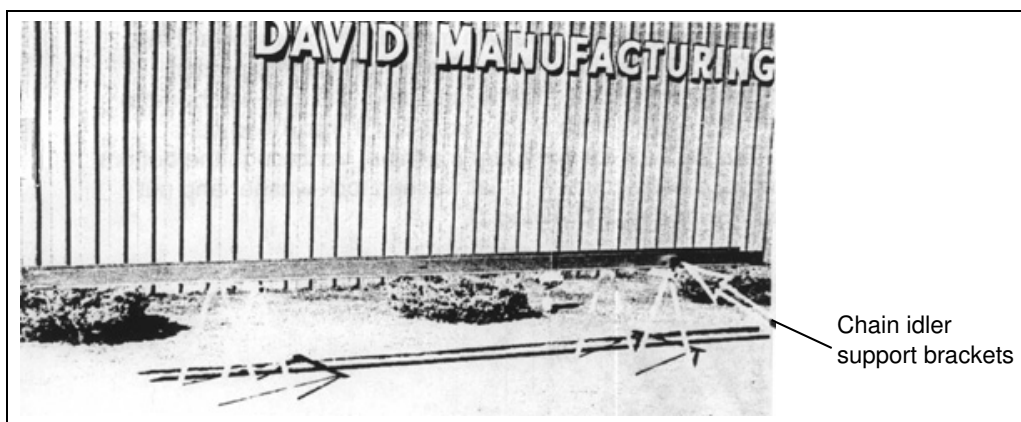

Figure 4C
8. Put main frame on saw horses (two (2) pieces), as shown in Figure 4C. Then space about 11-1/2" apart with angle flanges outward. Be sure chain idler support brackets are on the same end.